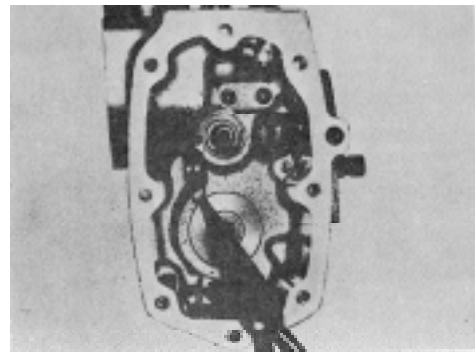

Fig. 5-102, F5299. Installing snap ring in throttle shaft
5. Install snap ring on end of throttle shaft. Fig. 5-102.